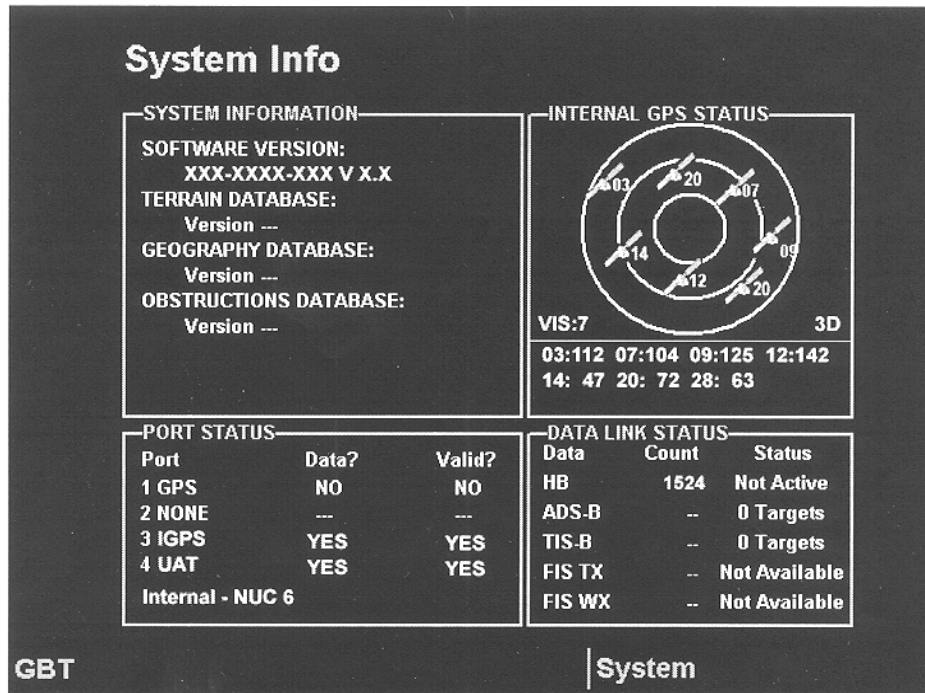

Figure 5-2 MX20 SYSTEM INFO PAGE
(9) Turn on the GBT under test. At the laptop computer type command: "cerr glbl f". Press ENTER and observe that data is not scrolling on the computer display.
(10) From the MX20 screen, after the startup routine has finished, select the System Info page by pressing the soft key. Verify that the HB (Heart Beat) data counter is incrementing. Figure 5-2 shows the layout of the System Info page.